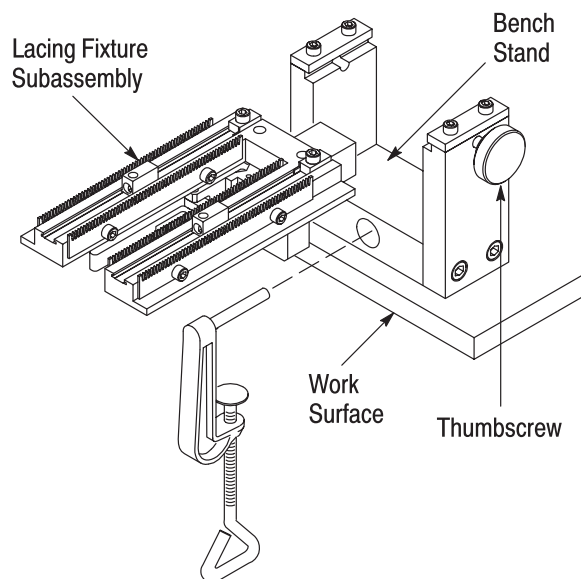

Figure 6
13. Secure the arbor frame assembly to the work surface according to instructions supplied with the frame assembly, or if using the bend stand (supplied with lacing fixture), secure the bench stand to the work surface. Remove the lacing fixture subassembly from the slide, and place it into the bench stand. Secure the subassembly by tightening the thumbscrew. Refer to Figure 6.